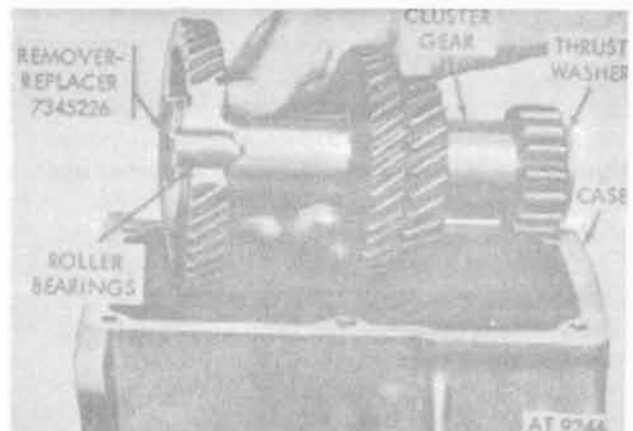

Figure 8-111. Installing countershaft gear cluster.
b. Position countershaft gear cluster assembly in transmission case with remover-replacer (dummy-shaft) installed as shown in figure 8-111. Thrust washer tangs should line up with slots in case. Refer to c below.